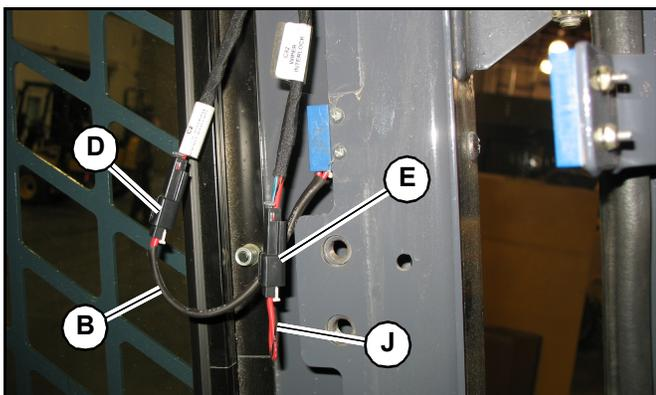

Fig. 46 – Door Switch Connection
1. Unplug door switch wire connector (B, Fig. 46) from “Door Switch” wire connector (D).
2. Transfer jumper (J) from “Wiper Interlock” wire connector (E), to “Door Switch” wire connector (D).